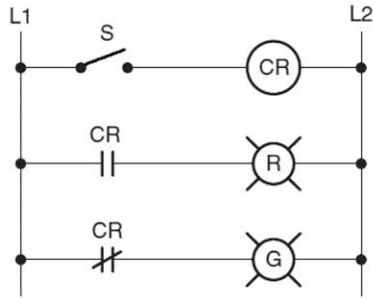

Figure 6-2 Hardwired relay circuit for question 3.
3. In the hardwired relay control circuit of Figure 6-2, when the switch is closed, CR coil is 3. _____